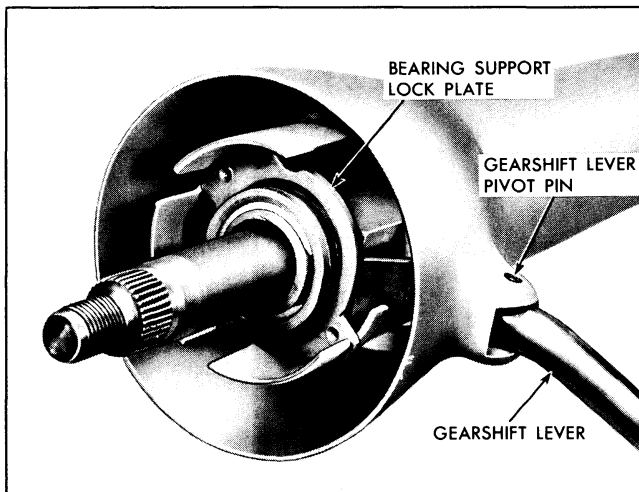

Fig. 9-22 Bearing Support Lock Plate in Position
17. Install bearing support lock plate, engaging flanges on plate in notches of steering column housing (Fig. 9-22).